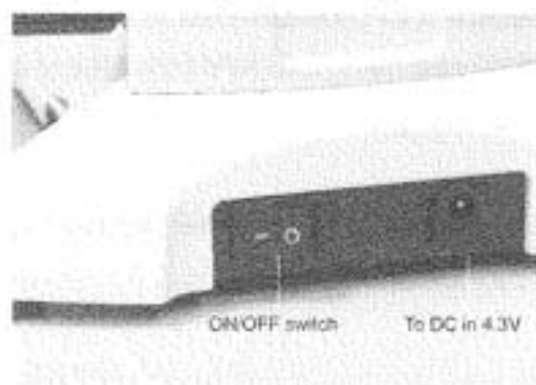

Fig. 2
- a. To open the LED lamp housing, please use the Allen key provided as shown in Fig.2 to loosen the screw on the side of the lamp housing and pull the housing up Fig.3.